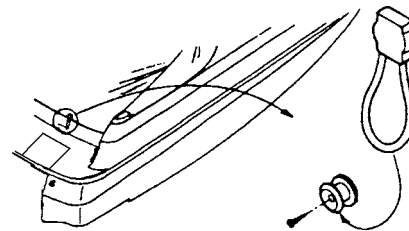

Figure N2: Shock Cords
- If the canvas has shock cords along the aft edge, attach to knobs as shown in Figure N2.
- b. If the canvas has shock cords along the aft edge, attach to knobs as shown in Figure N2.